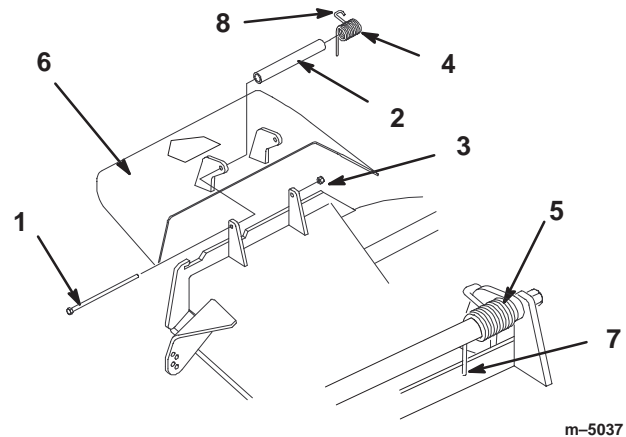

Figure 68
1. Remove the locknut, bolt, spring and spacer holding the deflector to the pivot brackets (Fig. 68). Remove damaged or worn grass deflector.
Note: Make sure the straight end of spring is installed behind deck edge before installing the bolt as shown in figure 68.
3. Install bolt and nut. Place hook end of spring around grass deflector (Fig. 68).